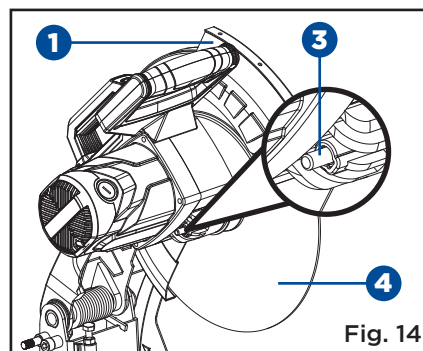

Fig. 14
**ON/OFF SWITCH (Fig. 14)**
- To turn the chop saw on, depress the ON/OFF switch (1) located in the "D" handle (2) portion of the machine arm.
- Rotate the lower wheel guard (1) upward until you expose the arbour bolt (2). Hold it in that position by hand.
- Press and hold the spindle lock button (3) to the right while rotating the abrasive wheel (4) by hand. (Fig. 14)